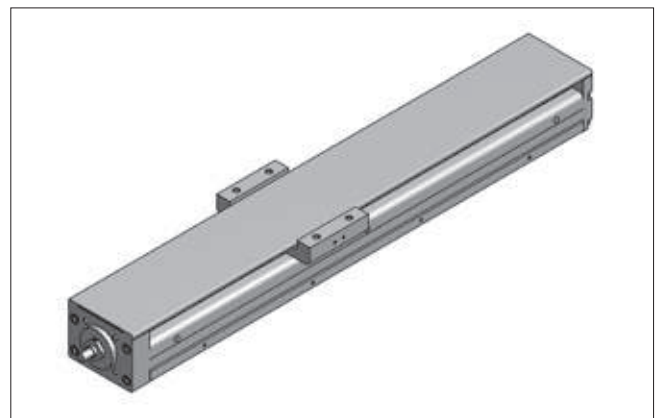

Figure 5.12 ___ AXBG with cover plate
- Optimal protection of the inside placed guiding and drive elements by the optional use of cover plates (Figure 5.12)